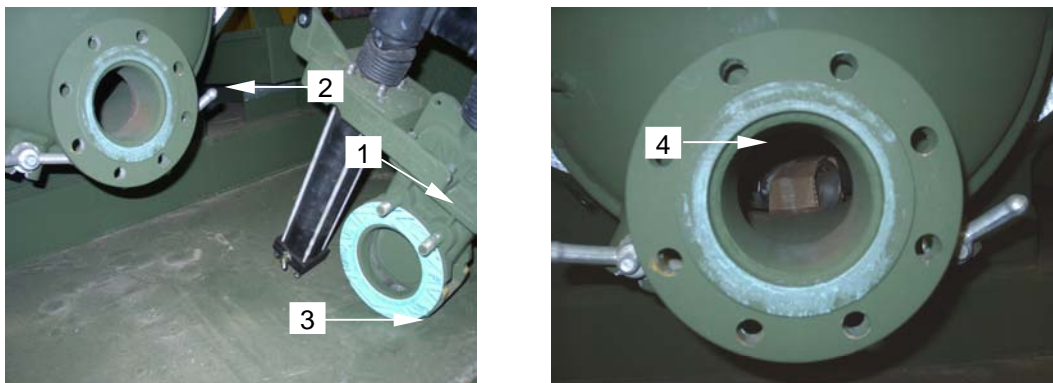

Figure 5. Removing Gasket and Cleaning Rear Flange
10. Remove the drain valve (**figure 5, item 1**) from the rear flange (**figure 5, item 2**).
11. Remove the 4-inch gasket (**figure 5, item 3**) from the drain valve (**figure 5, item 1**).
12. Clean flange gasket surface (**figure 5, item 4**) and remove gasket remnants from the rear flange (**figure 5, item 2**).